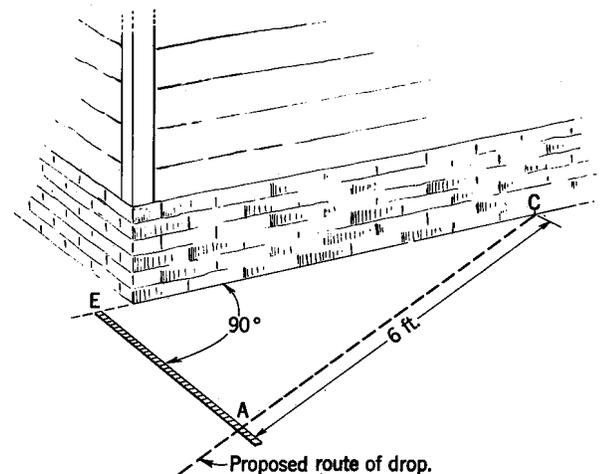

Fig. 1 — Laying Out Angle
2.03 Angle of 30° can be approximately determined by sight if it is remembered that 30° is $1/3$ of a right angle (90°). The following method may be used to check this angle (see Fig. 1):